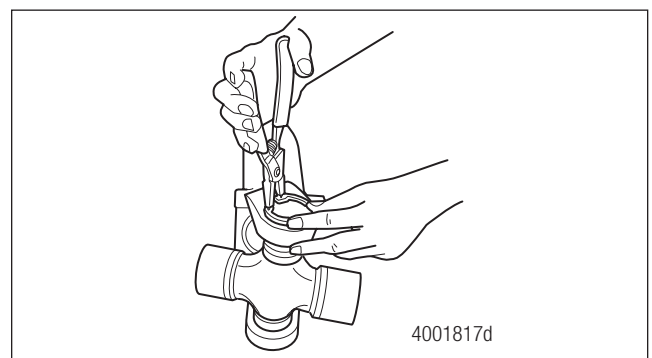

Figure 5.22
7. Use snap ring pliers to install the second snap ring into the snap ring groove. Figure 5.22.